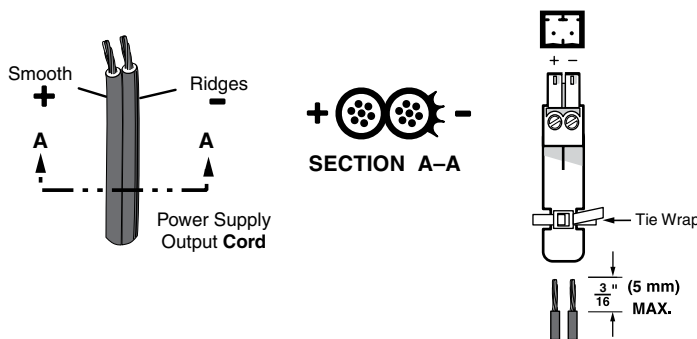

Figure 7. Power Connector Wiring
Figure 7 shows how to wire the connector. Use the supplied tie-wrap to strap the power cord to the extended tail of the connector.
- Power supply voltage polarity is critical. Incorrect voltage polarity can damage the power supply and the unit. The ridges on the side of the cord (see figure 7 on page 9) identify the power cord negative lead.